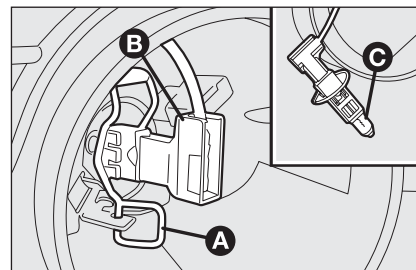

fig. 23
- release the bulb holder catch **A**-fig. 23;